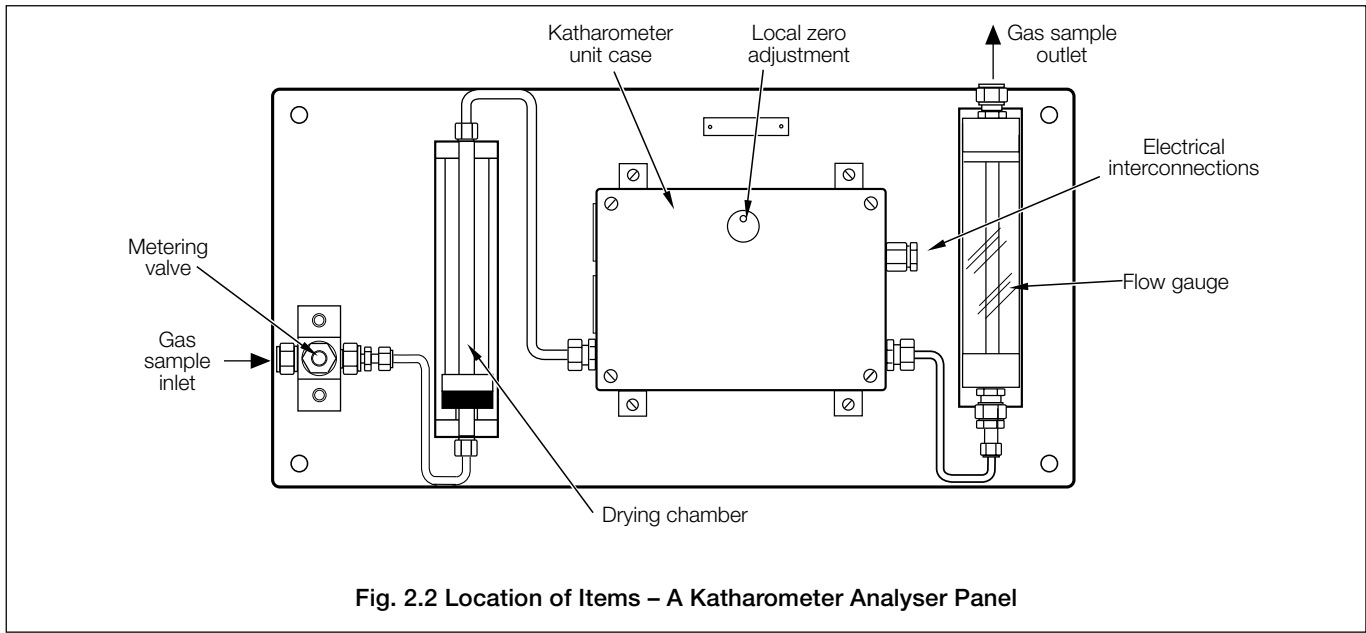

Fig. 2.2 Location of Items – A Katharometer Analyser Panel
2.2 Model 006540203 or 006548000 Katharometer Analyser Panel – Fig. 2.2